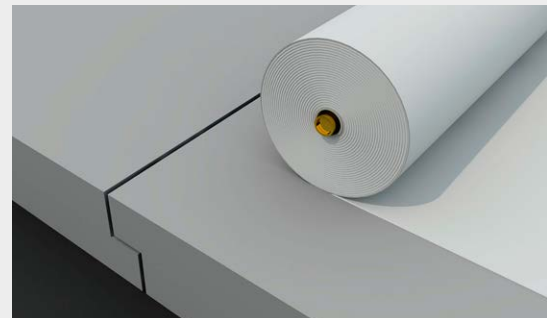

Figure 9
- 6 Lay XENERGY™ MK or suitable separating layer with 300mm laps at right angles to the slope. Arrange laps to run down the slope (**Figure 9**). At upstands and penetrations turn up the filter layer so it finishes above the surface of the ballast.